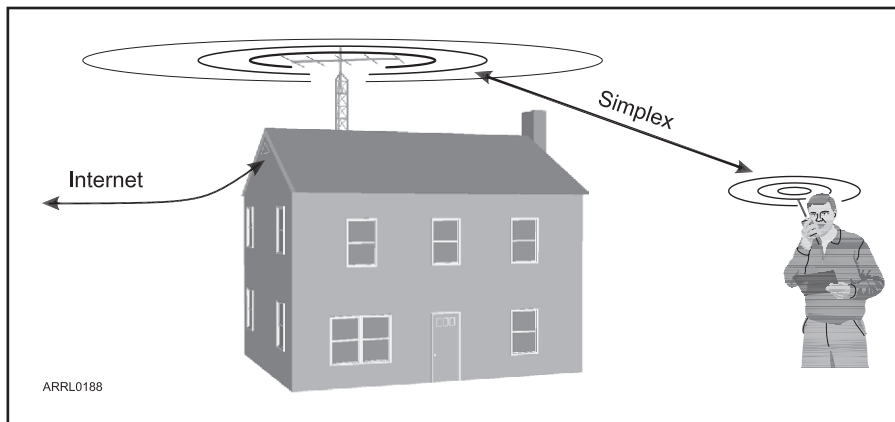

Fig 32 — A typical Echolink simplex node.
- **Links:** Similar to repeater nodes, but operating on simplex frequencies without full repeater functionality (see Fig 32). These are typically FM transceivers connected to computers. Depending on the station setup, their coverage can be confined to a neighborhood, or it may encompass an entire county.